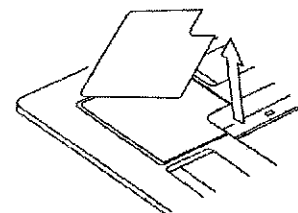

Fig.3
(3) Remove the service cover on the corner. Slide the service cover outward to remove. (Refer to Fig.3)